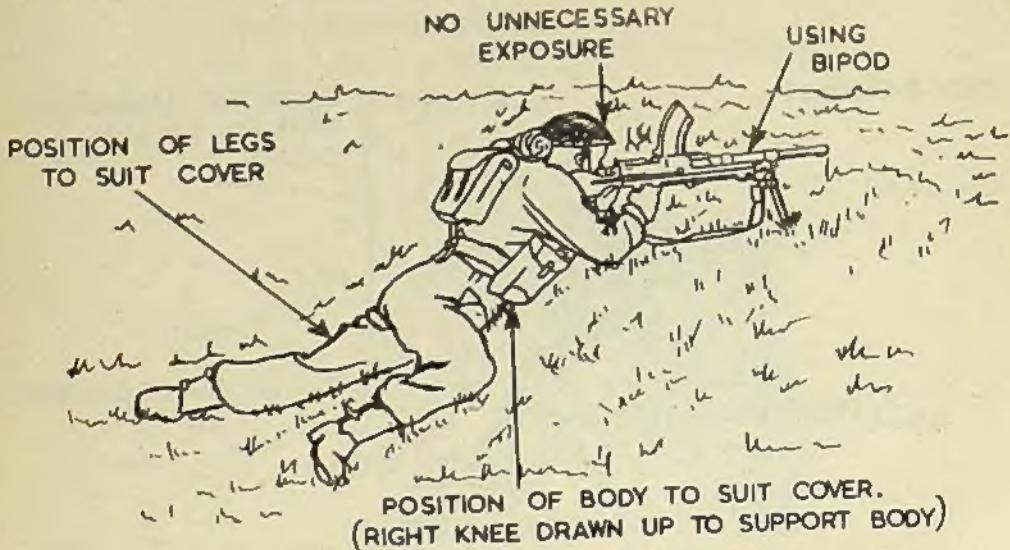

FIG. 12. GUN MOUNTED USING BIPOD
50. Figures 12 to 18 indicate how the gun and bipod should be used in order to take full advantage of available cover.